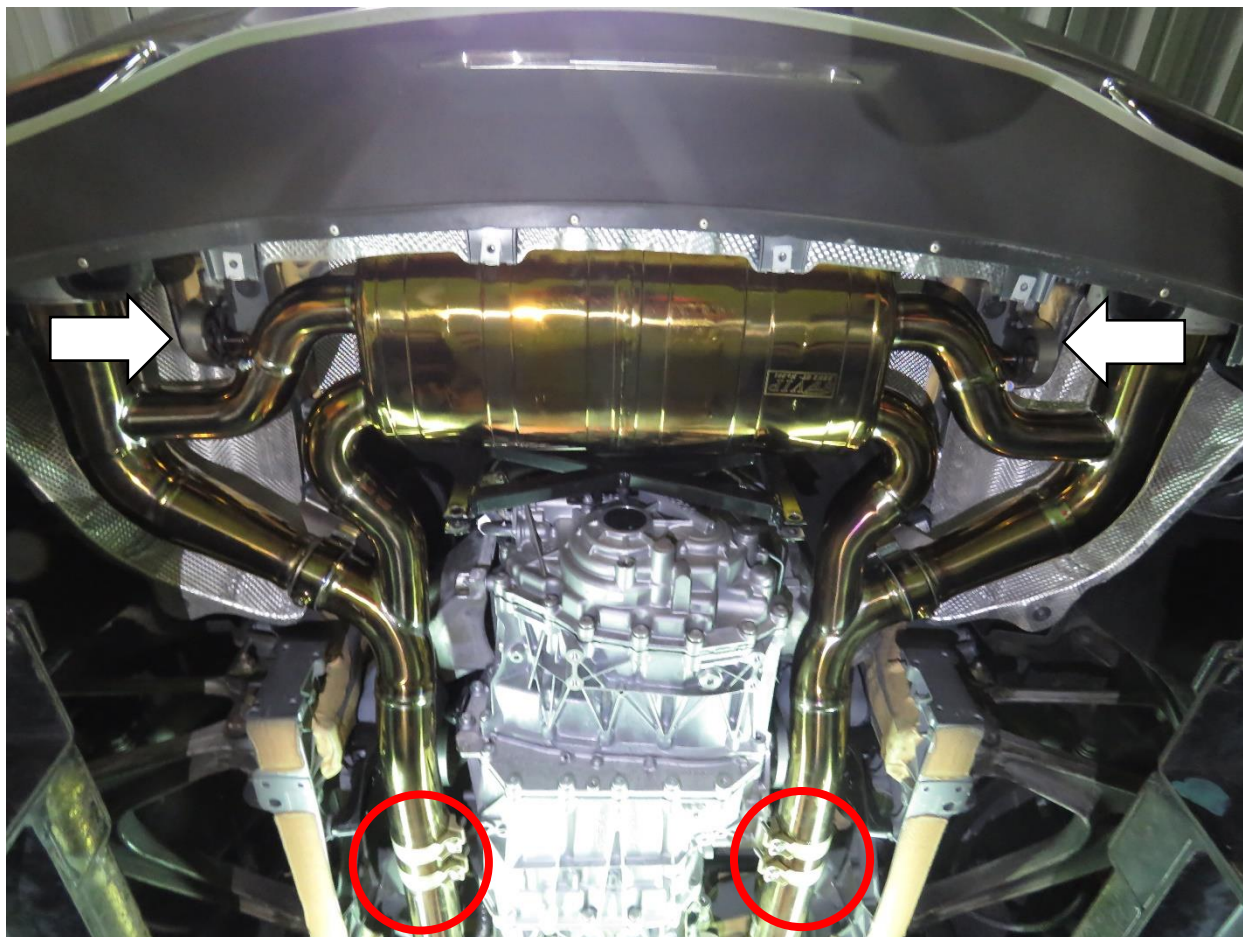

Fig. 17
3. Install the sliding sleeve and bushes to the position.(Fig 17)